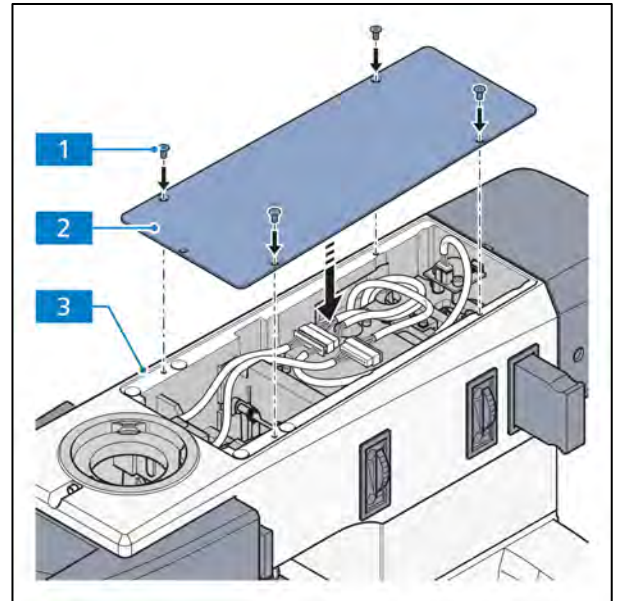

Fig. 3-59 Mounting the cover on the upper stand part
- Place the cover (Fig. 3-59/2) on the upper stand part (Fig. 3-59/3) and tighten it with the 4 screws (Fig. 3-59/1).